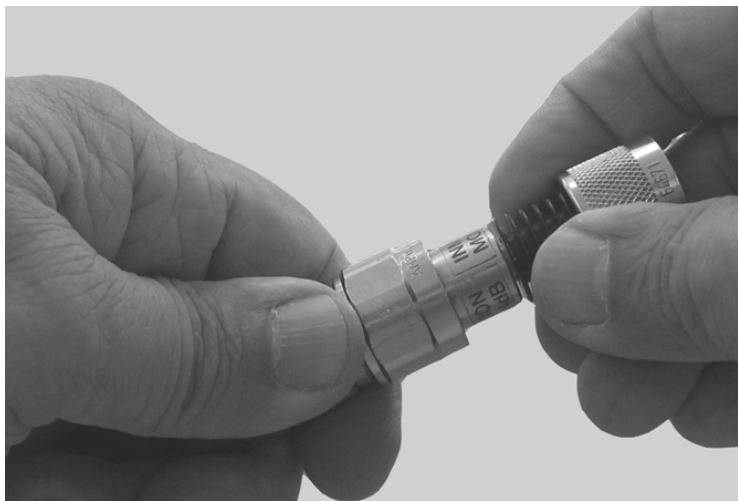

Figure 9 Connect RF N-type Load or Attenuator to Reader Cable End
1. Terminate the reader end of the grounding RF cable with any N-type load or RF attenuator (Figure 9).